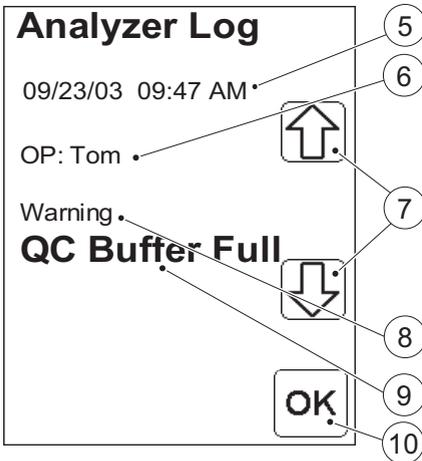

FIGURE 9-19
The From date (1) and To date (2) displayed represent the earliest and latest stored Logs. It is possible to change the date interval. If no change is required press Confirm (4). *FIGURE 9-19* will then be displayed.
a) If required, change the From date (1) via the Digit buttons (3). Press Confirm (4).
b) Repeat the instruction “a)” for the To date (2).
c) *FIGURE 9-19* will be displayed.